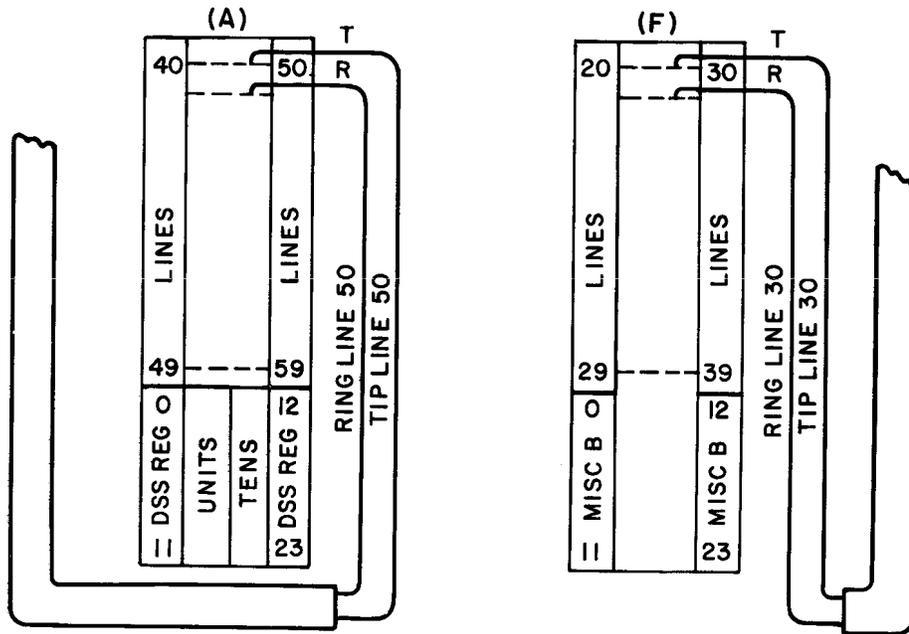

Fig. 3—Method of Terminating Tip and Ring Leads
- (1) Connect **T** and **R** leads from station to designated terminals in crown of cabinet as shown in Fig. 3. Refer to Fig. 1 for position of blocks A and F.
- (2) Remove strap between terminals S1 and G and place strap between terminals S1 and S on ter-